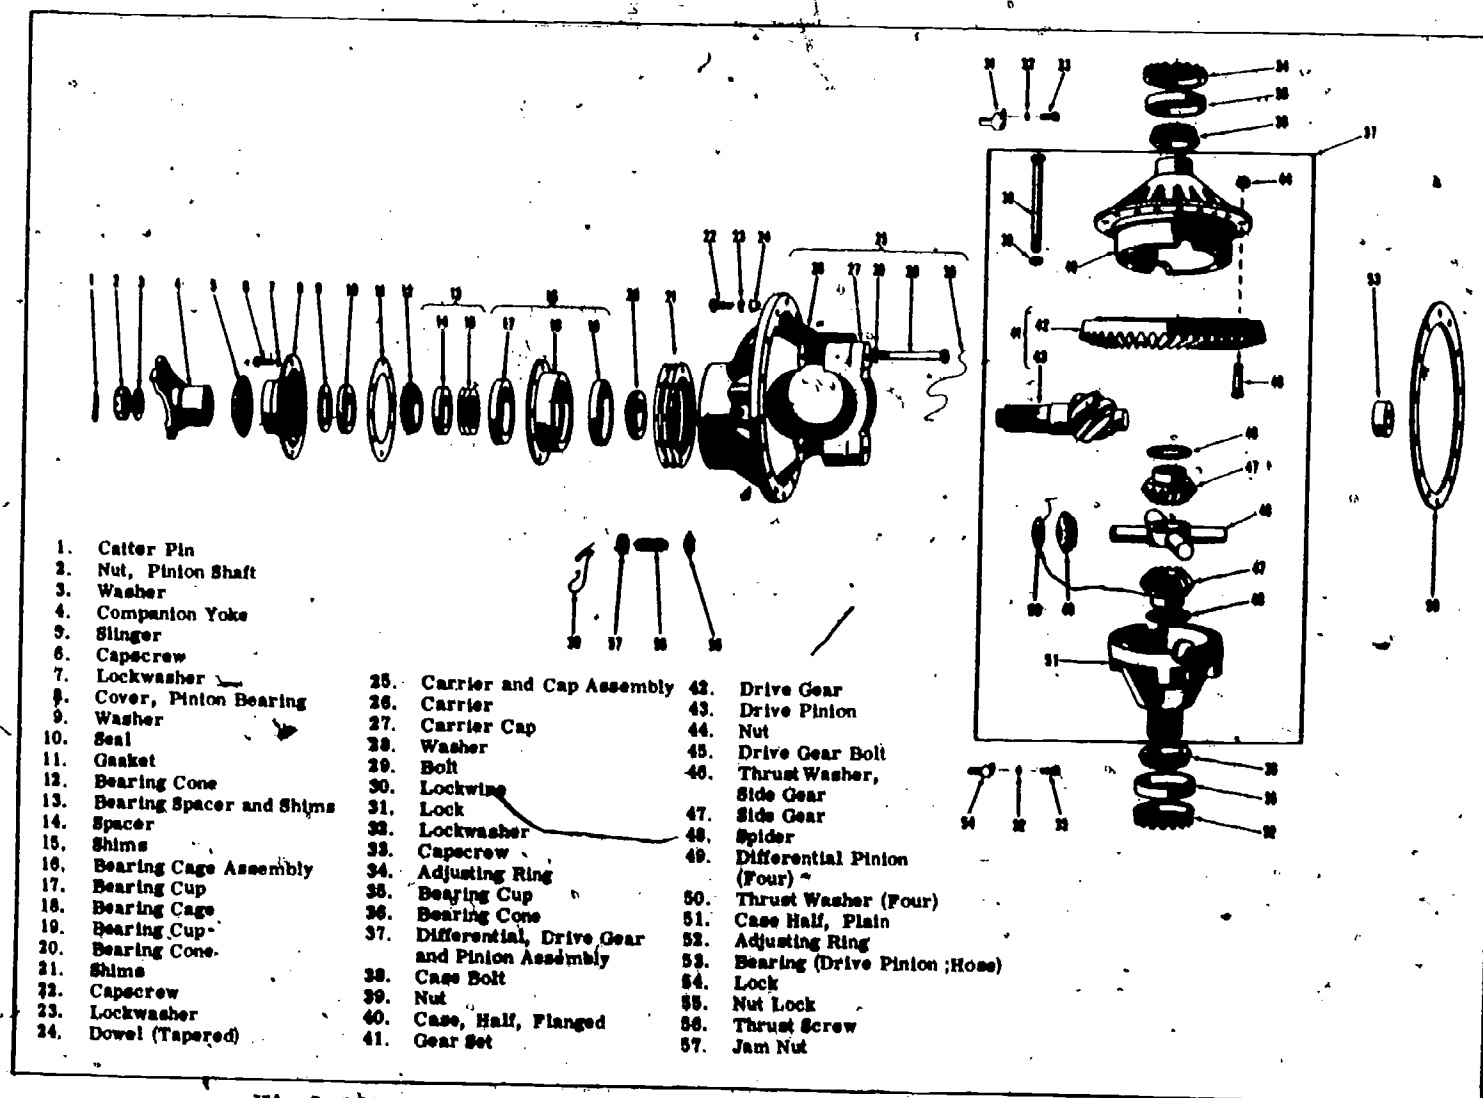
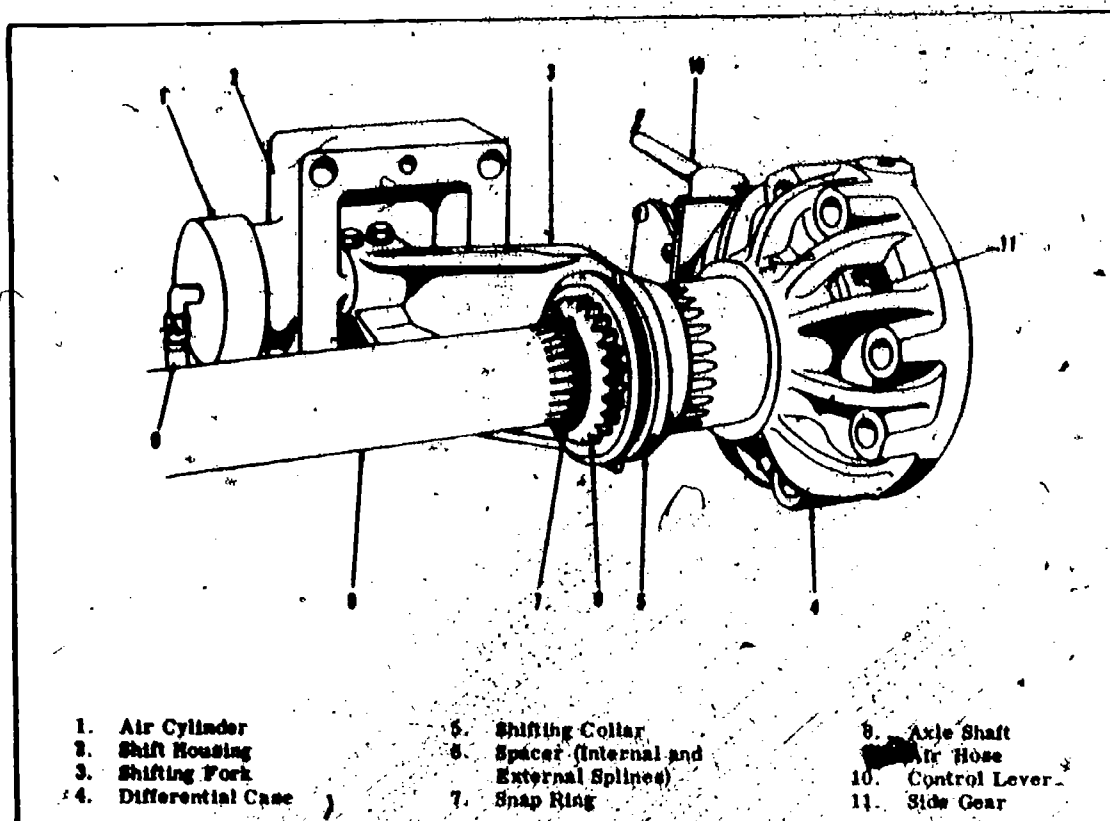

Fig 3-36. Exploded view of MRS-100 wheeled tractor differential.
Fig 3-37. Differential lock.
- (1) Axle assembly. The differential (fig 3-36) used in these assemblies is very similar to the differential used in the M37 crane-shovel. It performs four functions: transmits torque from the drive pinion to the axle shafts, changes the direction of rotation of the drive parts 90°, provides for a reduction in the double-reduction axle, and allows one wheel to turn at a different rpm from the opposite wheel. This tractor is also equipped with a differential lock which prevents wheel-spinning where the traction is poor. When the locks are engaged, the two wheels will rotate at the same rpm regardless of resistance. The axle is a double-reduction axle assembly; the first reduction is in the differential and the second reduction is in the planetary gearing in the wheels. Power from the propelling shaft enters the axle housing at the drive pinion. The drive (ring) gear is bolted to the differential case and is in mesh with the drive pinion. Therefore, it will rotate when the drive pinion rotates. The differential pinions and side gears function the same as those in the M37 crane-shovel differential unless the differential locks are engaged. The axle shafts rotate with the side gears or the differential case. Splines on one side of the differential case and a splined sleeve on one axle (fig 3-37) allow the operator to lock that axle shaft to the case by moving a collar to engage both sets of splines. With the axle shaft splined to the side gear and locked to the case, the side gear must rotate at the same speed as the case. This prevents wheel-spin because one side gear must rotate faster and one slower than the differential case during wheel-spin.